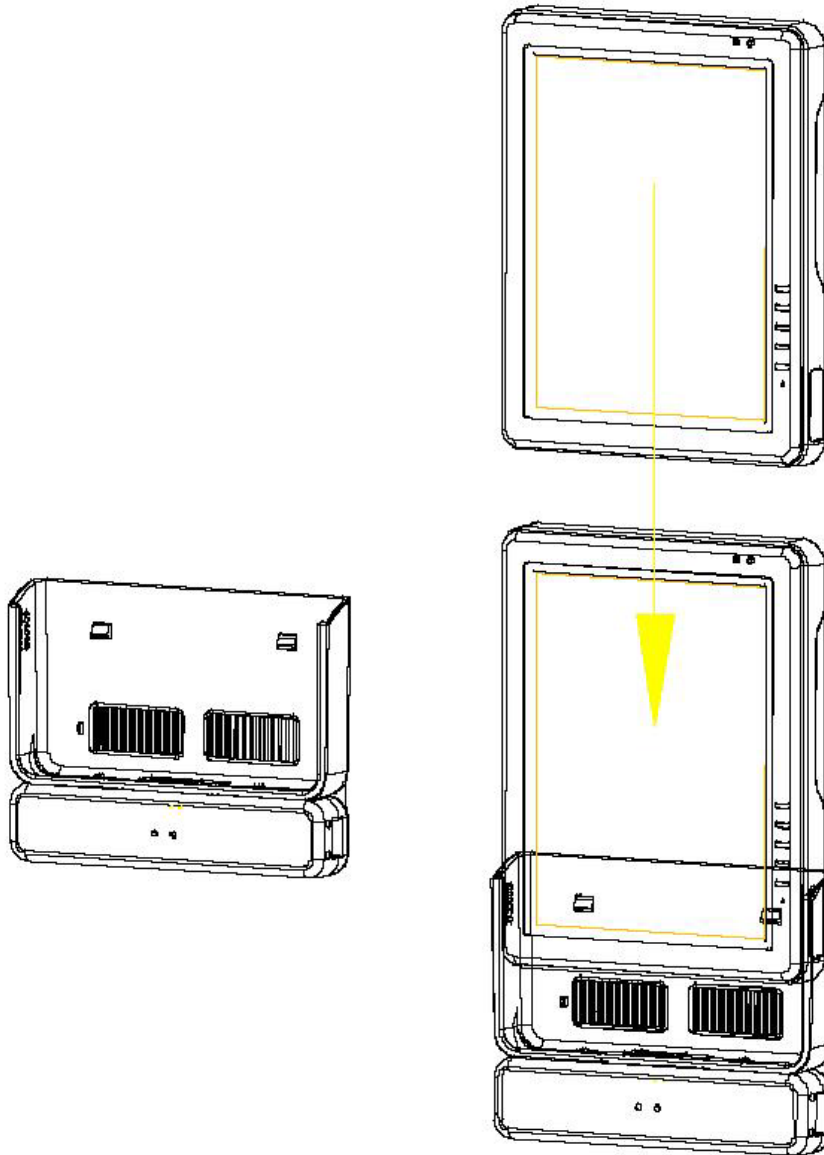

Figure 2-8: Combining with CRADLE
3. The Tablet PC must vertical landing to CRADLE (See Figure 2-8.)
4. The button on up of CRADLE down and switch off then Tablet PC can vertical takeoff CRADLE . (See Figure 2-8)